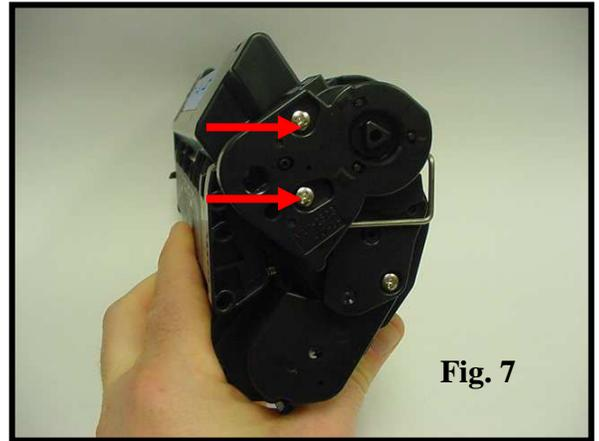

Fig. 7
7. Remove two screws from the drum stabilizer (Fig. 7).